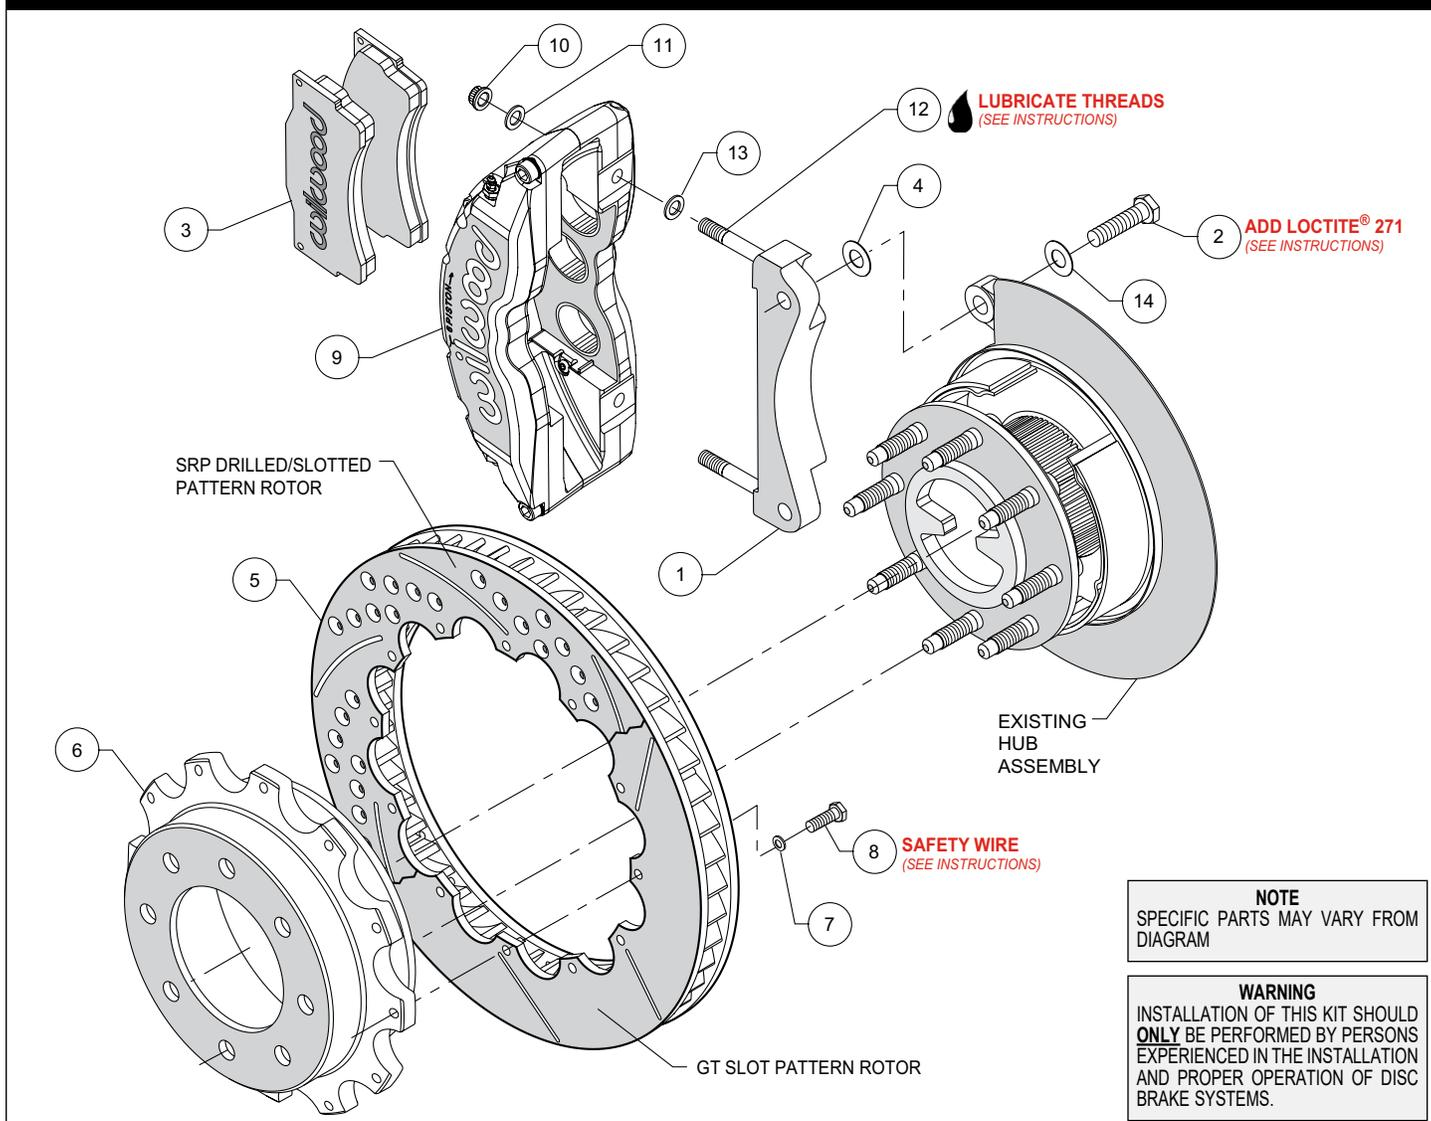
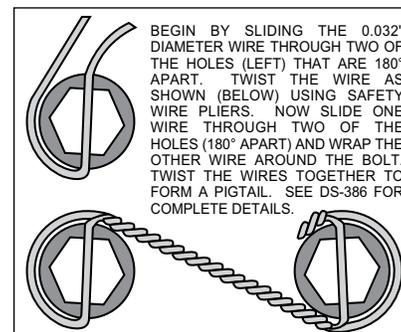

Figure 1. Typical Installation Configuration
Figure 3. Safety Wire Diagram
NOTE: Numbers in parenthesis refer to the parts list and Figure 1 on the preceding pages.
- The caliper mount bracket assembly (1) should be installed first with clean, dry threads on the mounting bolts (2). Install the bracket by sliding bolt (2) through washer (14) from the rear side of the hub through the OEM caliper mounting bracket ears, then through an additional shim washer (4) and into the bracket (1). The bracket must tighten squarely against the outboard side of the caliper mount bosses on the upright. Inspect for interference from casting irregularities, machining ridges, burrs, etc. Use one shim (4) between the bracket and upright during initial trial fitting. Later, after the caliper, pad, and rotor alignment have been checked, and any necessary shims have been put in place, the mounting bolt threads (2) should be coated with red *Loctite*® 271 and torqued to 95 ft-lbs.
- Attach the rotor (5) to the hat (6) using bolts (8) and washers (7) as shown in Figure 1. Using an alternating sequence torque bolts to 25 ft-lbs. Safety wire the bolts using standard 0.032 inch diameter stainless steel safety wire as shown in Figure 3. Please refer to Wilwood's data sheet DS-386 (available at www.wilwood.com/Pdf/DataSheets/ds386.pdf) for complete safety wire installation instructions.
- Lubricate caliper mounting studs and nuts with lightweight oil. Install one shim (13) over each stud (12) on the radial mount bracket (1). Slide the caliper (9) in place over the studs and rotor and install the washers (11) [up to 4 may be required on each side to keep the lock nut from bottoming out on the stud], and lock nut (10) to hold the caliper in place. The caliper bleed screws should be pointing up. Snug the lock nuts (10) and check that the rotor (5) is centered in the caliper (9). Add or subtract .029" shims (4) as necessary between the caliper mount bracket and the caliper mount bosses on the upright assembly to center the caliper.
- Remove the two caliper center bridge pad retainer bolts, nuts, and tubes from the caliper. Slide the brake pads (3) into place. They should install easily without interference. Check that the outside radius of the brake pad is aligned with the outside diameter radius of the rotor face. Add or subtract shims (13) between the caliper and mount bracket to gain the proper alignment. Reinstall the two center bridge pad retainer tubes, bolts, and lock nuts. The locknut should be snug without play in the bolt or tube. Be cautious not to over tighten.
- Once all clearances have been checked, remove the wheel, caliper and rotor from the axle flange. Secure the caliper mounting bracket (1) to the axle flange body with bolts (2) while coating the threads with red *Loctite*® 271. Torque the bolts to 75 ft-lbs. Reinstall the rotor and again use several lug nuts to hold it in place. Reinstall the caliper, torque the caliper nuts (10) to 47 ft-lbs.